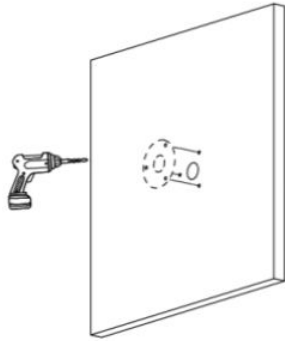

Figure 2-1
**Step 1** Mark the mounting points for the camera and then drill the mounting holes as well as a cable pass through hole if necessary. See Figure 2-1.